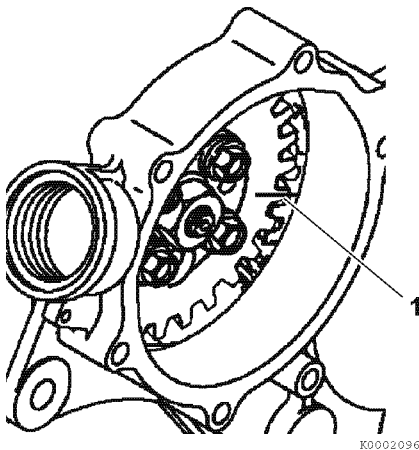

Figure 7-16
14. To aid in reassembly, make reference marks (**Figure 7-16, (1)**) on the drive gear and idler gear.